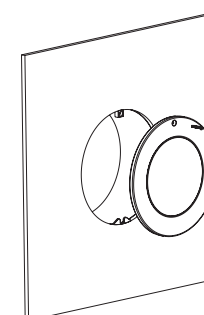

Figure 6
- 3) Attached the cover to the lamp housing and tighten up the above screws(Figure 6 & 7).